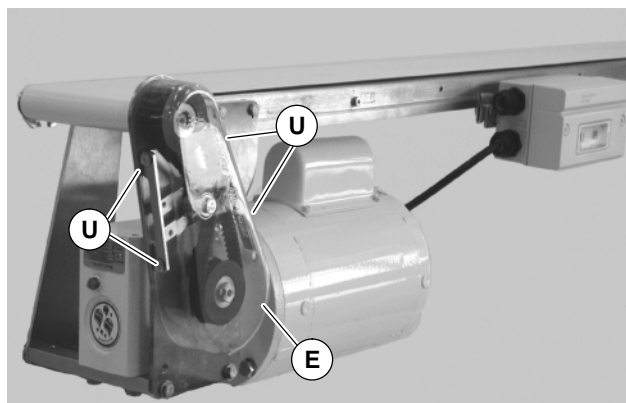

Figure 16
1. Loosen four (4) screws (U of Figure 16) and remove cover (E).
NOTE: Do not over-tighten screws (U of Figure 16).
6. Attach cover (E of Figure 16) and tighten four (4) screws (U) to 4 Nm.